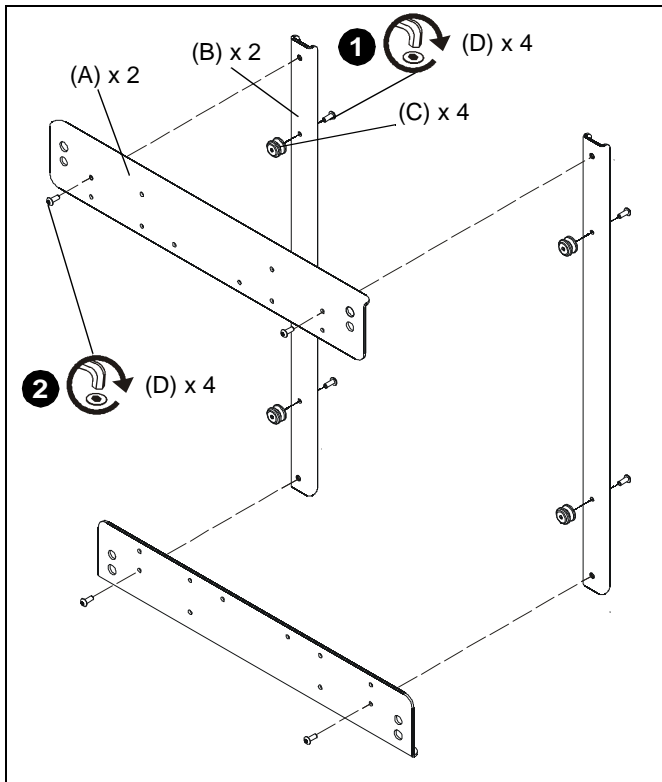

Figure 1
1. Attach four mounting buttons (C) to vertical brackets (B) using four #10-24 x 1/2" button head cap screws (D). (See Figure 1)
2. Attach horizontal brackets (A) to cross brackets (B) using four #10-24 x 1/2" button head cap screws (D). (See Figure 1)